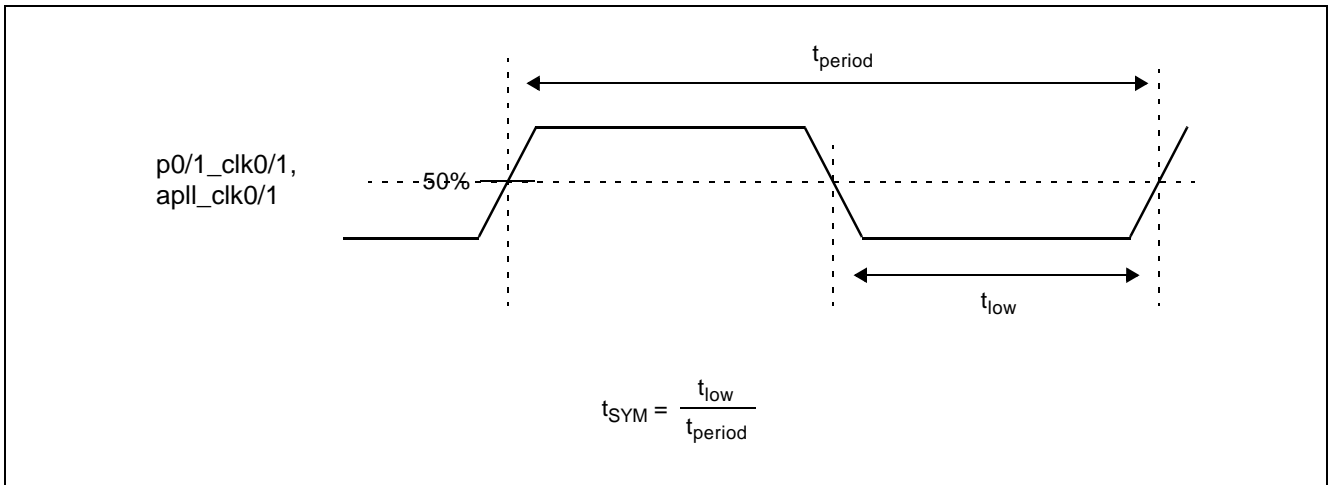

**Figure 28 - Input To Output Timing**
**AC Electrical Characteristics1 - Input To Output Timing For Ref<7:0> References (See Figure 28).**